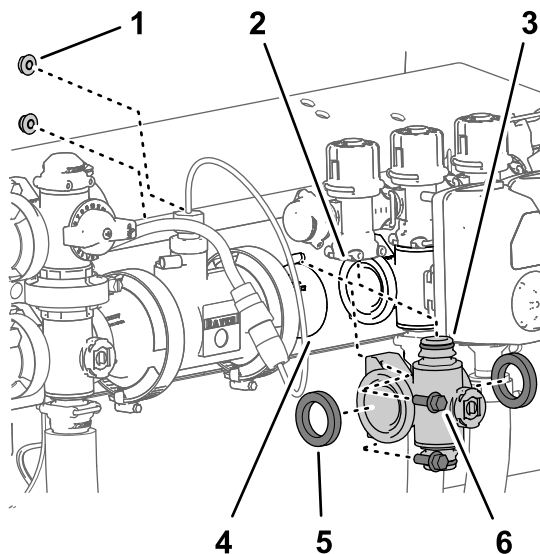
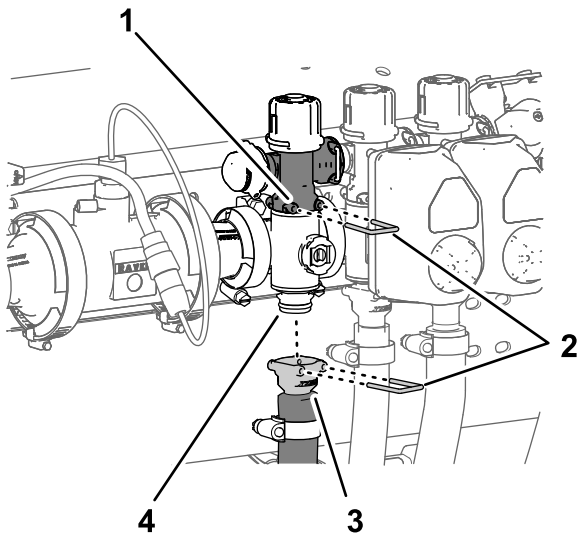

Figure 133
Figure 134
1. Align the 2 gaskets that you removed in Removing the Section-Manifold Valve (page 85) to the flanges of the section-valve manifold (Figure 133).
2. Align the flange of the section-valve manifold between the flanges of the other section-valve (s) and/or coupling adapter (Figure 133).
3. Assemble the quick-connect fitting of the section-valve manifold to the quick-disconnect socket of the section-bypass valve with a quick-connect pin (Figure 133 and Figure 134).
5. For left or right section-valve manifolds, assemble the section-valve manifold to the valve support (Figure 133) with the 2 flange-head bolts (1/4 x 3/4 inch) and 2 flange locknuts (1/4 inch) that you removed in Removing the Section-Manifold Valve \(page 85\).
- Assemble the quick-connect coupler of the section hose onto the quick-connect fitting of the section-valve manifold with the quick-connect pin (Figure 134).